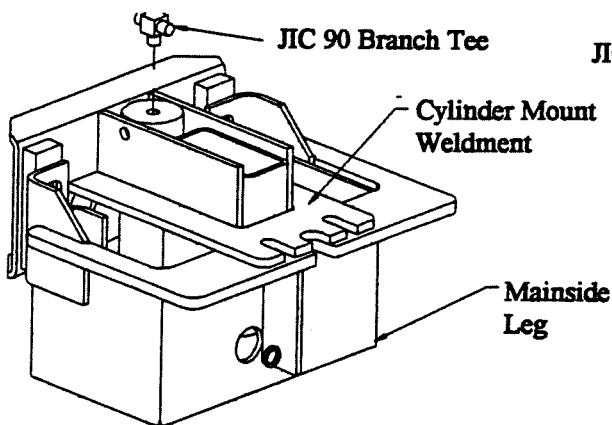

FIGURE 5
7. Remove the red port plugs from each cylinder. Attach a male pipe thread to male JIC 90 elbow to the nipple at the bottom end of both cylinders. The fitting should face toward the top of the cylinder. Attach a male pipe thread to male JIC branch tee to the top opening of the mainside leg cylinder. The branch tee should run perpendicular to the mounting bolt. Figure 5
8. Install the cylinders in the legs by attaching them to the Cylinder Mount Weldments with 1/2" x 4-1/2" Grade 8 bolt with nut. The fitting at the bottom of the cylinder should be positioned to the left, as you look into the leg. See Figures 5 & 6 for placement of cylinders in the top of the legs.